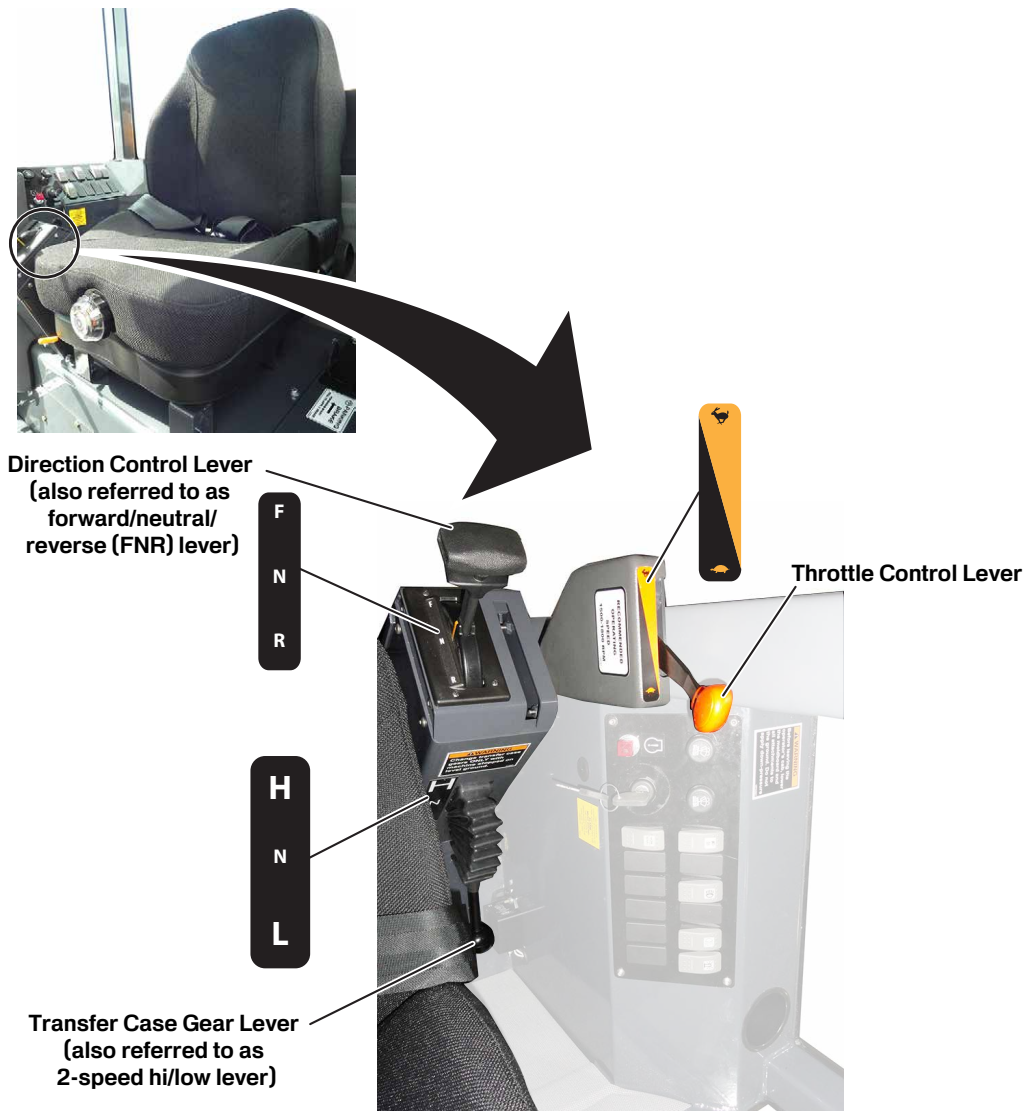

Figure 3-7. Throttle Control/Transfer Case Gear/Direction Control Levers
- NEVER start engine while standing on the ground. Start engine only from operator's seat, with directional control lever (**Figure 3-7**) in NEUTRAL.